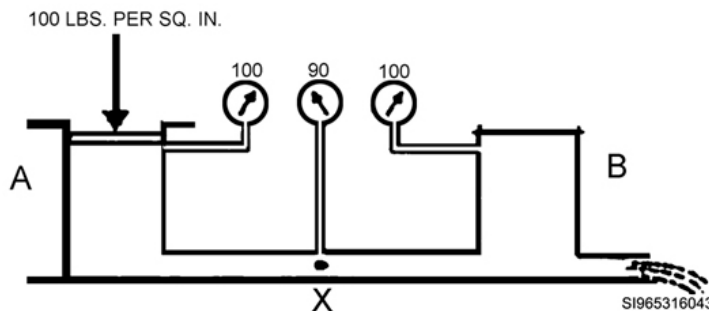

Figure 3-26. Bernoulli's thermo.
Look at figure 3-26. This system consists of a chamber (A) under pressure connected by a tube (X) to chamber (B), which is also under pressure. The pressure in chamber (A) has a static pressure of 100 psi. The pressure in the connecting tube (X) is currently 90 psi. As the liquid enters chamber (B), it is slowed down; as it slows, its pressure returns to 100 psi. That is, the force (pressure) required to get the liquid moving in the first place is subtracted from the static pressure. Why? Because the force used to move the liquid is exerted only in a forward direction, while the remaining static pressure is exerted equally and undiminished in all directions. For example, if 10 lb. of the static pressure is used to move the liquid from chamber (A) to chamber (B), then only 90 lb. will be sensed in the pressure gauge at the intermediate point. The 10 lb. is not lost or eliminated. When the velocity of the liquid slows down in chamber B, the 10 lb. of pressure will return to the static pressure head.